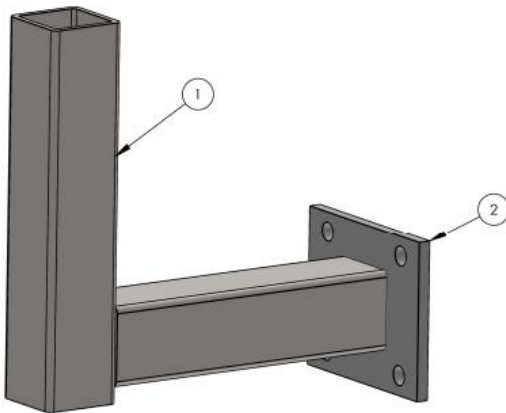

Figure 1.5
Another alternative mounting option is a split frame option. This requires the installer to cut and remove a section of the base tube assembly. The leg collars (1) will then need to be welded to bolt plates (2) (not supplied), similar to Figure 1.5.
Weld bolt plates (not supplied) to the base tube cuts as seen in Figure 1.5. Align fabricated brackets heightwise, maintain a clearance of at least 1" between cab and base tube bracket.